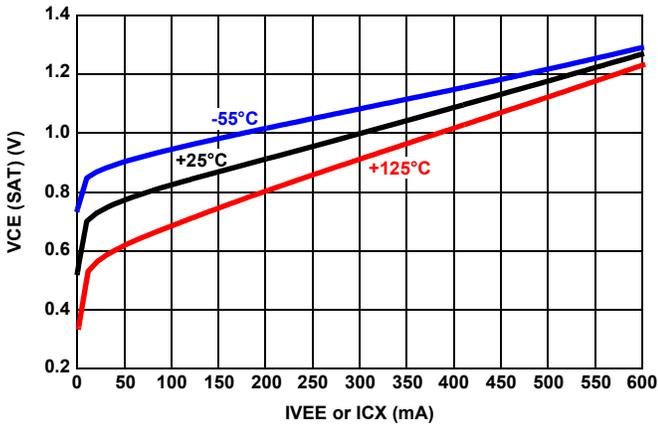

FIGURE 13. VCE (SAT) vs ICX vs TEMPERATURE
5. Note: The performance curves shown in Figure 13 on page 17 was taken using the evaluation board and a Keysight B2902A precision source/measurement unit.
- c. Channels CH0, CH8, CH16, CH24, and CH31 were measured. The plots in Figure 13 are the average of these channels.